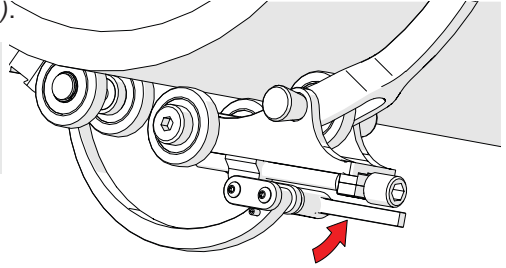

Fig. 23 - Press down to lock
8. Rotate the knob until the buckle's lever can be pushed down locking the buckle in place (Fig. 23). The tightness of the **ROTIX** on the pipe can be adjusted using the buckle adjustment knob (Fig. 22-1).